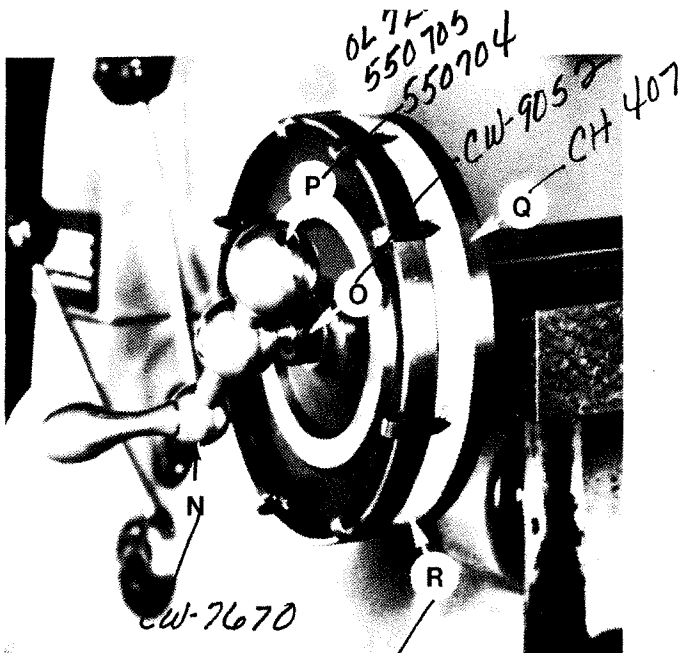

Figure 2.7 - Cross Feed Screw Dial
12. Remove lock screw "P", Figure 2.7, and the set screw and pin located under lock screw "P".
If the turret is on the machine, it may be necessary to mount handle "N", Figure 2.7, to remove the cross feed screw from the feed screw nut.
4. Remount dial assembly "R" and nut "O", Figure 2.7 .
The gap between dial "R" and zero ring "Q", Figure 2.7, should be set at .002" [.05mm] to .004" [.1mm].
14. Check the gap between dial "R" and zero ring "Q", Figure 2.7 .